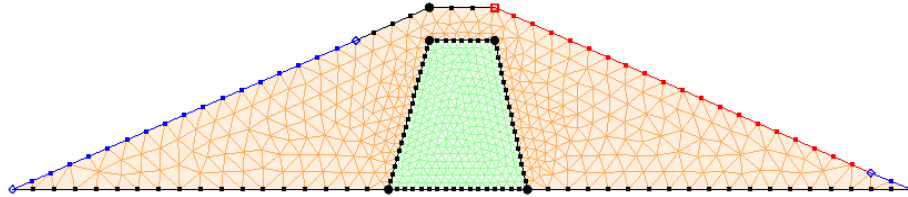

Figure 10 The 2D mesh has been created
14. Click the **Map** → **2D Mesh**  macro at the top of the GMS window (or select *Feature Objects* / **Map** → **2D Mesh**) to create the 2D mesh (Figure 10).